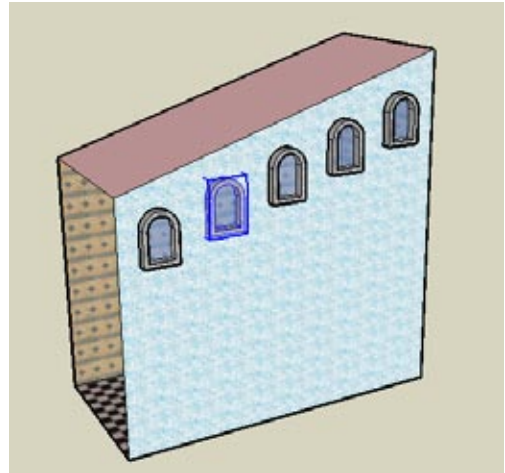

Figure 1-37
- Using the method demonstrated in Recipe 1.1, enter the number of copies you want (say,  $4x$ ) and adjust the spacing to get a line of sloped windows (Figure 1-37). The spacing is the distance measured along the diagonal edge.